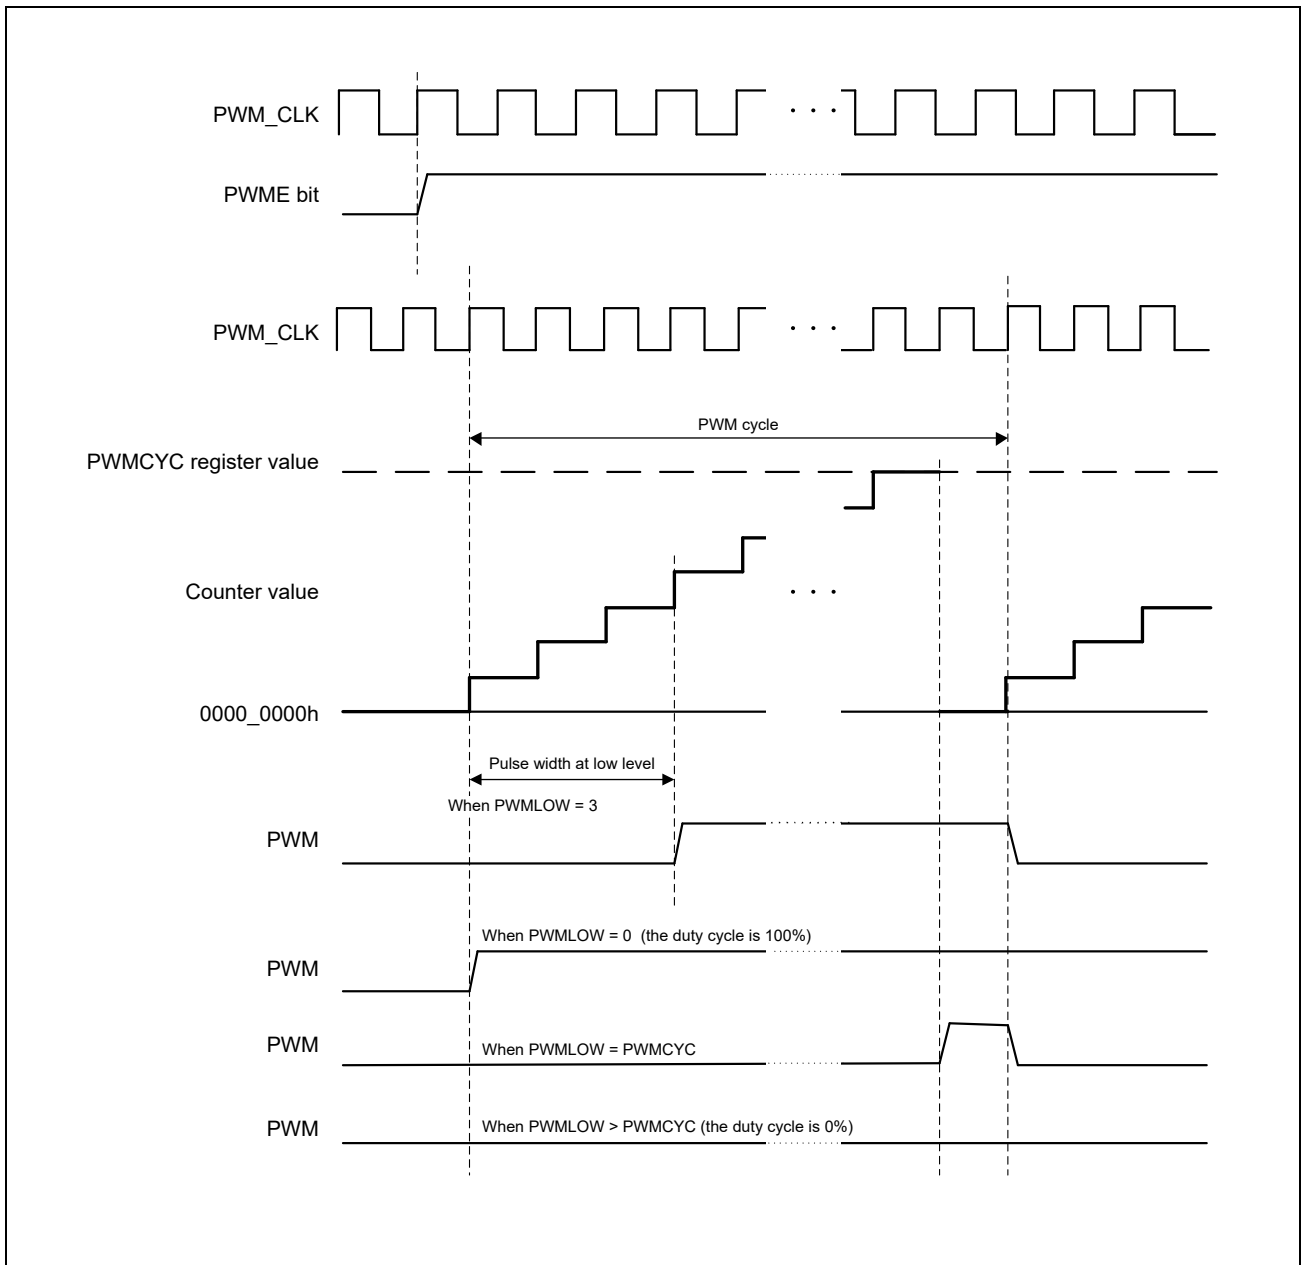

Figure 17.4-2 PWM Output Timing Details
**Figure 17.4-2** shows the respective timings of the PWM signal when the output level setting of the PWM signal is 0 (PWMHL = 0b), the PWMLOW register values are 3 and 0 (the duty cycle is 100%), when the PWMLOW register value is equal to that of the PWM\_CLYC register, and when the PWMLOW register value is greater than the PWM\_CLYC register value (the duty cycle is 0%).